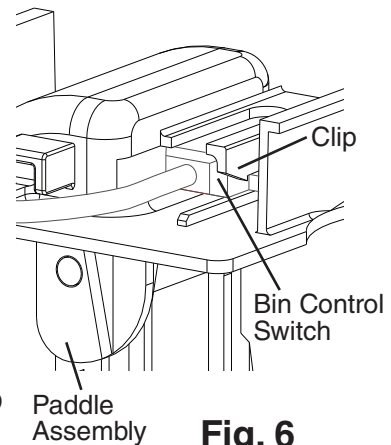

Fig. 6
- 5) Lift up slightly on the clip securing the bin control switch to the paddle assembly and slide the switch out. See Fig. 6.